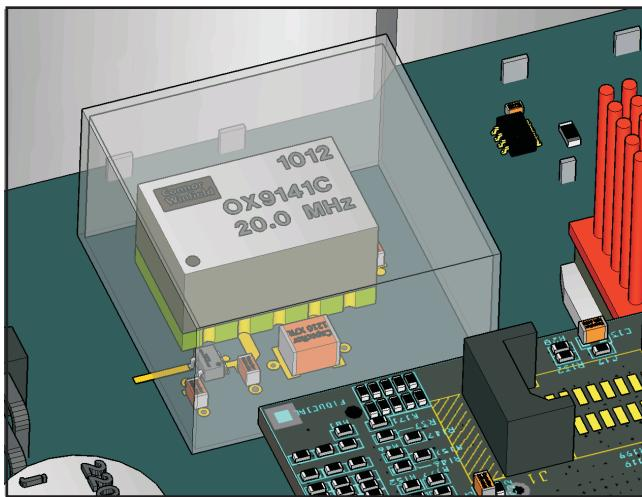

Figure: 16-01
13. Plastic and metal covers can be used to further reduce small temperature fluctuations in the system by reducing variable air flow across the device. An effective cover will should still allow a small air gap between the OCXO and any wall of the cover. SEE FIGURE 16-01